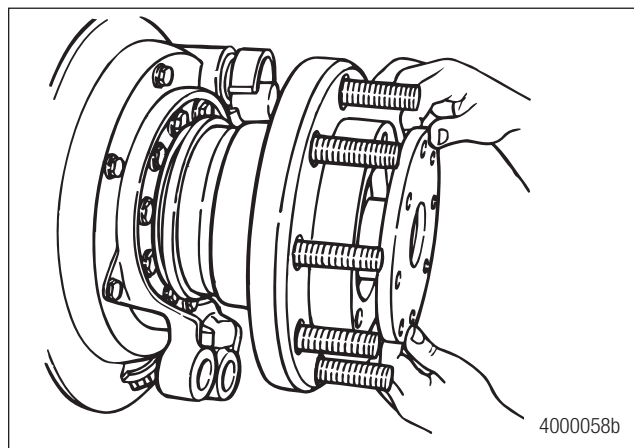

Figure 7.25
3. Install the drive flange onto the hub and fasten with washers and capscrews. Figure 7.25. Tighten to specification. Refer to Section 12 Specifications on page 77.